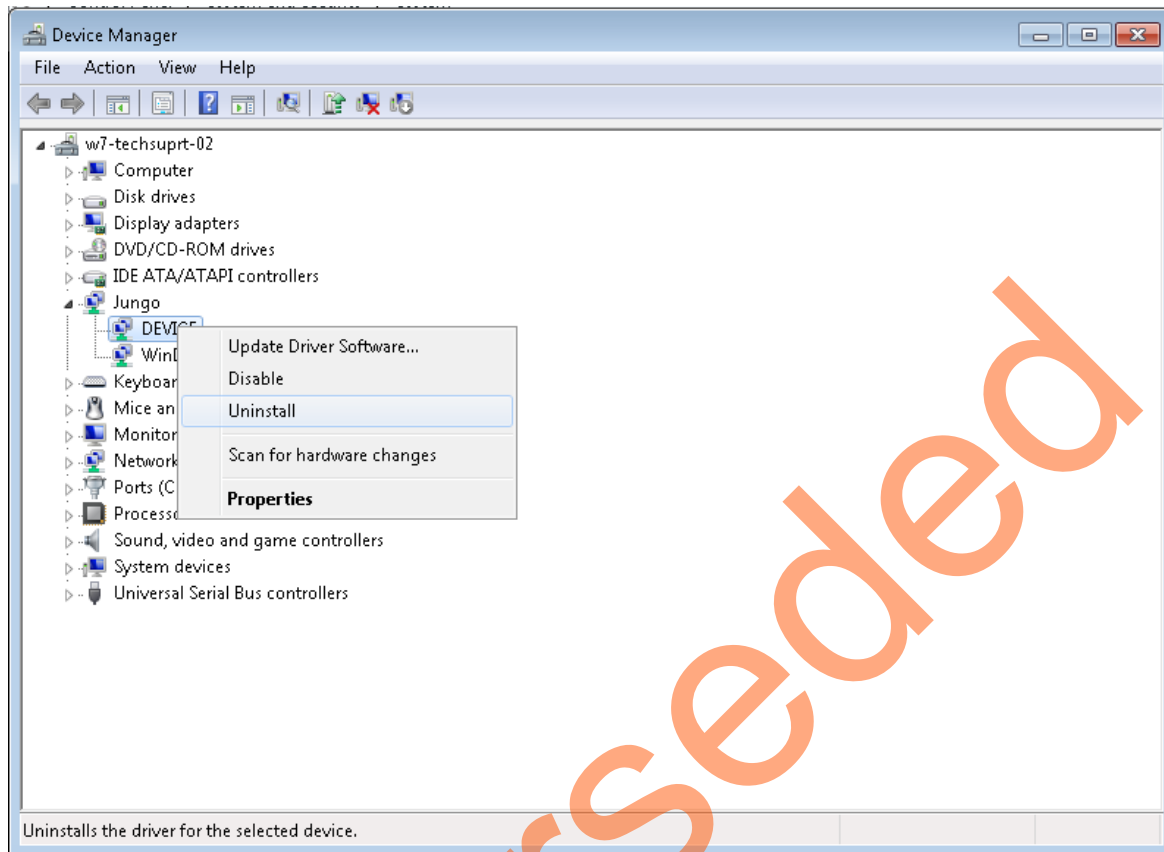

Figure 61 • Device Uninstall
3. To uninstall previous Jungo drivers go to device manager and right-click on DEVICE as shown in Figure 61 on page 58 device uninstall.